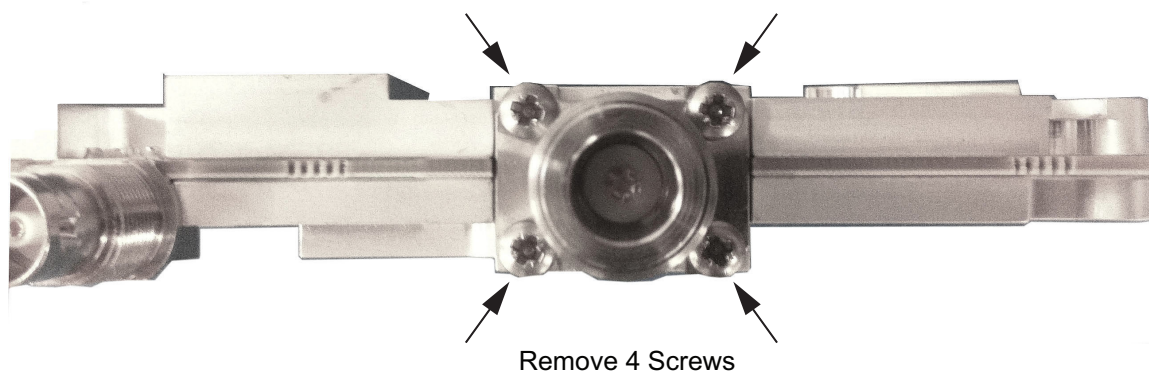

Figure 5-7. Remove 4 Screws
5. Remove the four screws attaching the N connector to the shield (Figure 5-7).